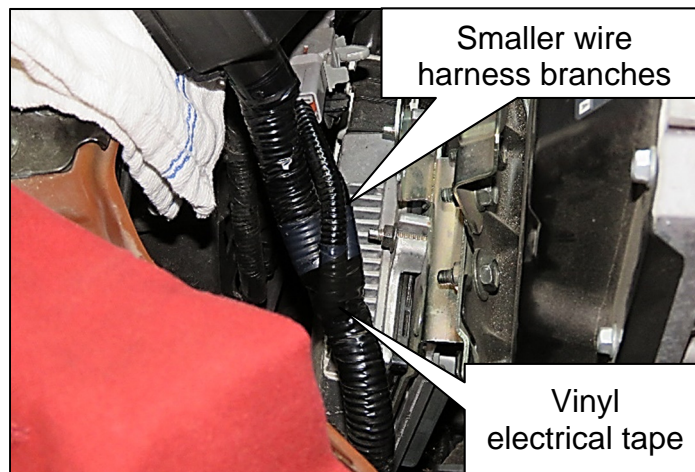

Figure 11
9. Align the two (2) small wire harness branches side by side, and then, using the required vinyl electrical tape, secure the main wire harness and both wire harness branches together, as shown in Figure 11.
- Wrap the vinyl electrical tape around the main wire harness and both wire harness branches two (2) times.
**HINT:** Do not wrap the wire harness more than two (2) times as the taped bundle may become too large for the wire harness protector.